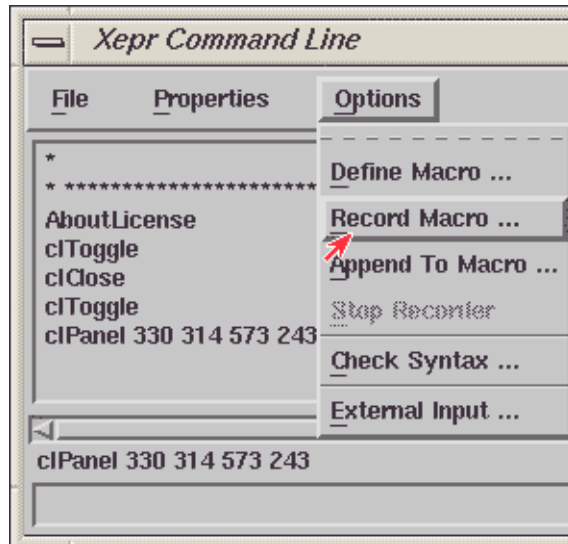

Figure 8-2 Starting to record a macro.
3. **Start recording.** Click Options > Record Macro. (See Figure 8-2.)